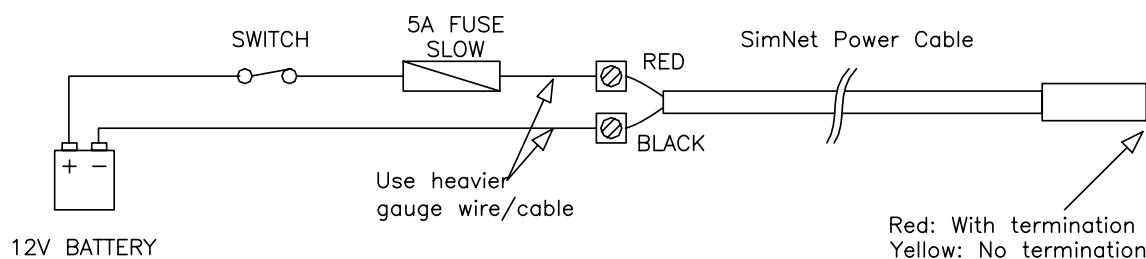
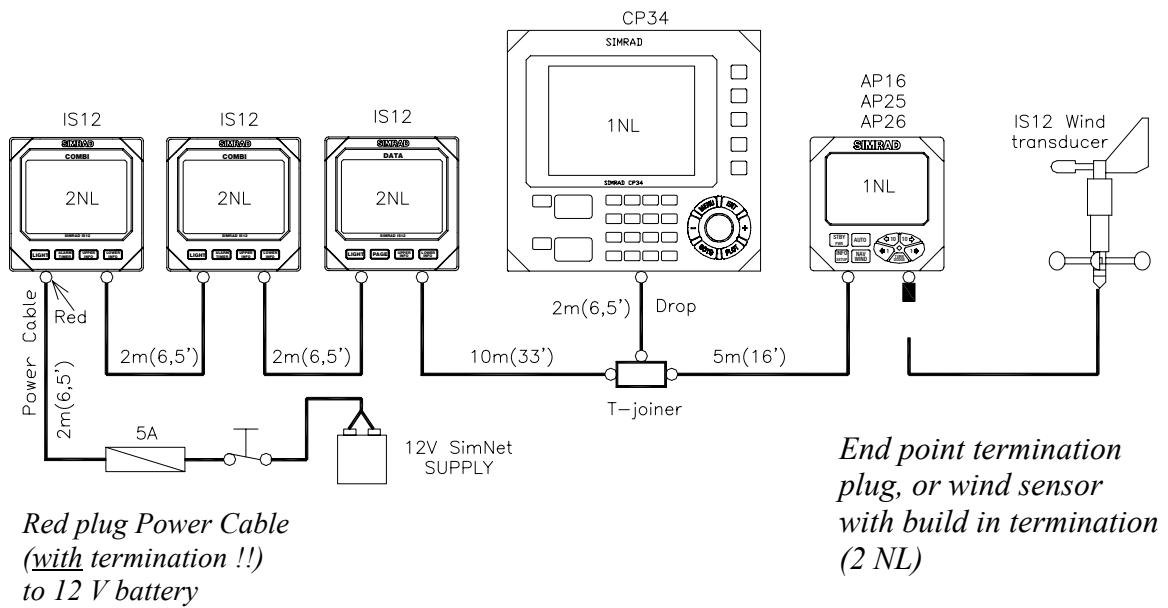

Figure 3-1 Power connection
Figure 3-3 Medium size system
Using a heavier gauge cable between the battery and the SimNet power cable will reduce the effect on the total network cable length (L). (See Figure 3-1 and page 16.)
You can follow the guidelines on page 15 – 18 (disregard Figure 3-1, Figure 3-2, Figure 3-3) if you are using a NMEA2000 Light Cable system with micro-C connectors and a network cable with minimum 20 AWG (0.5 sq. mm.) power wires.¹